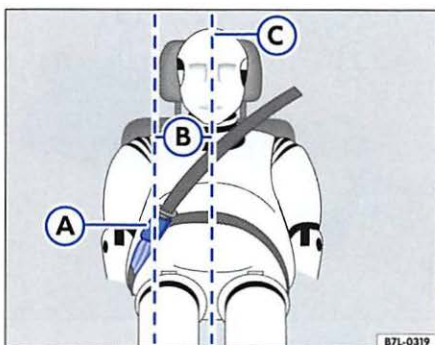

Fig. 18 Measurements
- ① Front edge of buckle ⇒ fig. 18
- ② Distance of buckle and body centerline, (less than 6 inches (15 cm) ⇒ fig. 18
- ③ Body centerline ⇒ fig. 18